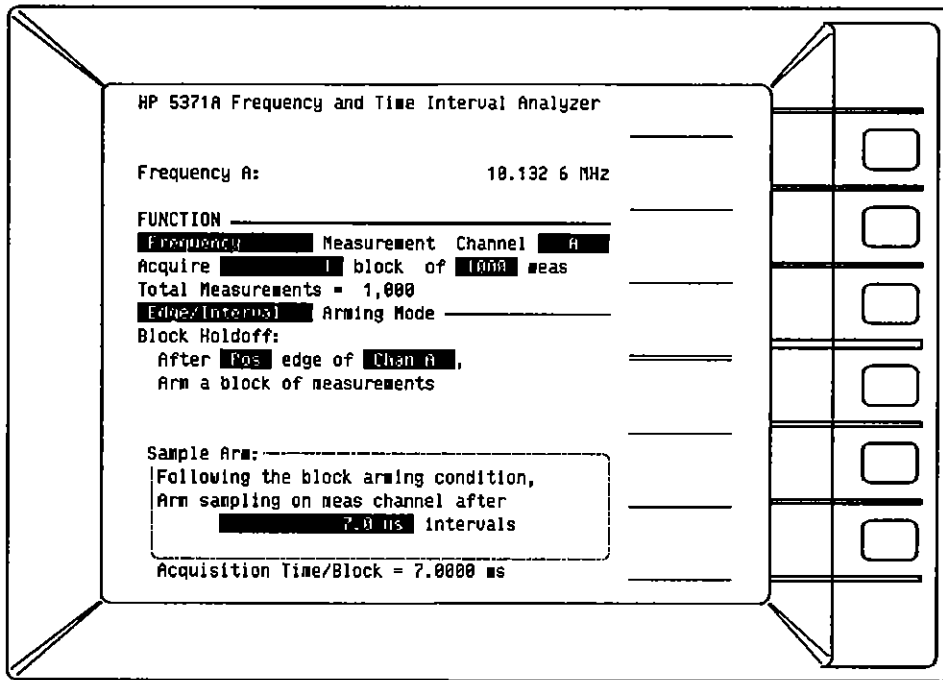
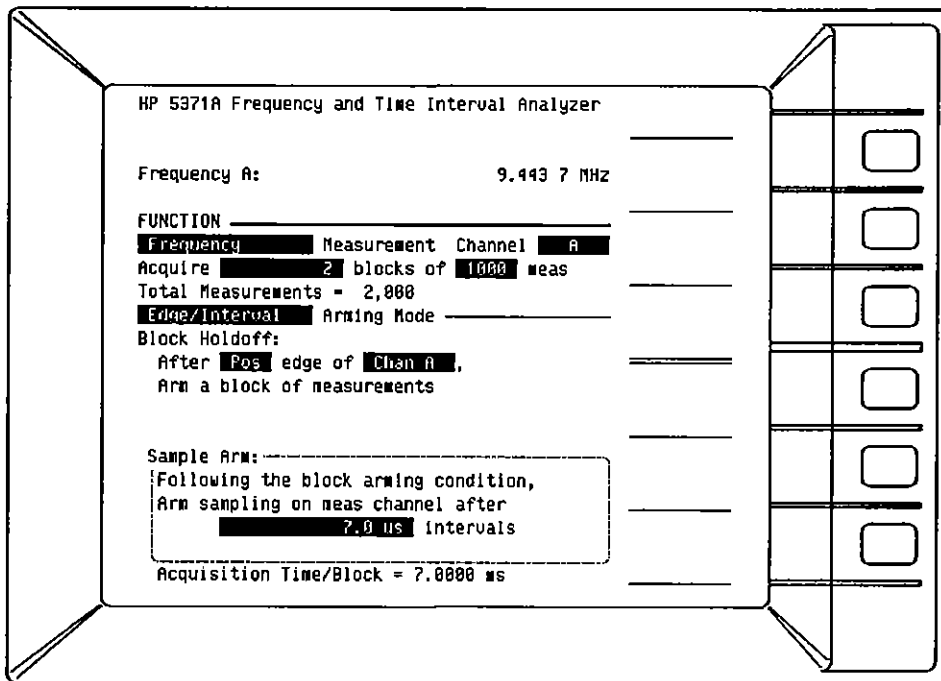

Figure 16-19. UPDATE is Not Available
Figure 16-20. UPDATE While or After Selection is Available
*Figure 16-19* shows a setup where UPDATE is not offered. *Figure 16-20* shows a setup where UPDATE While or After is available.